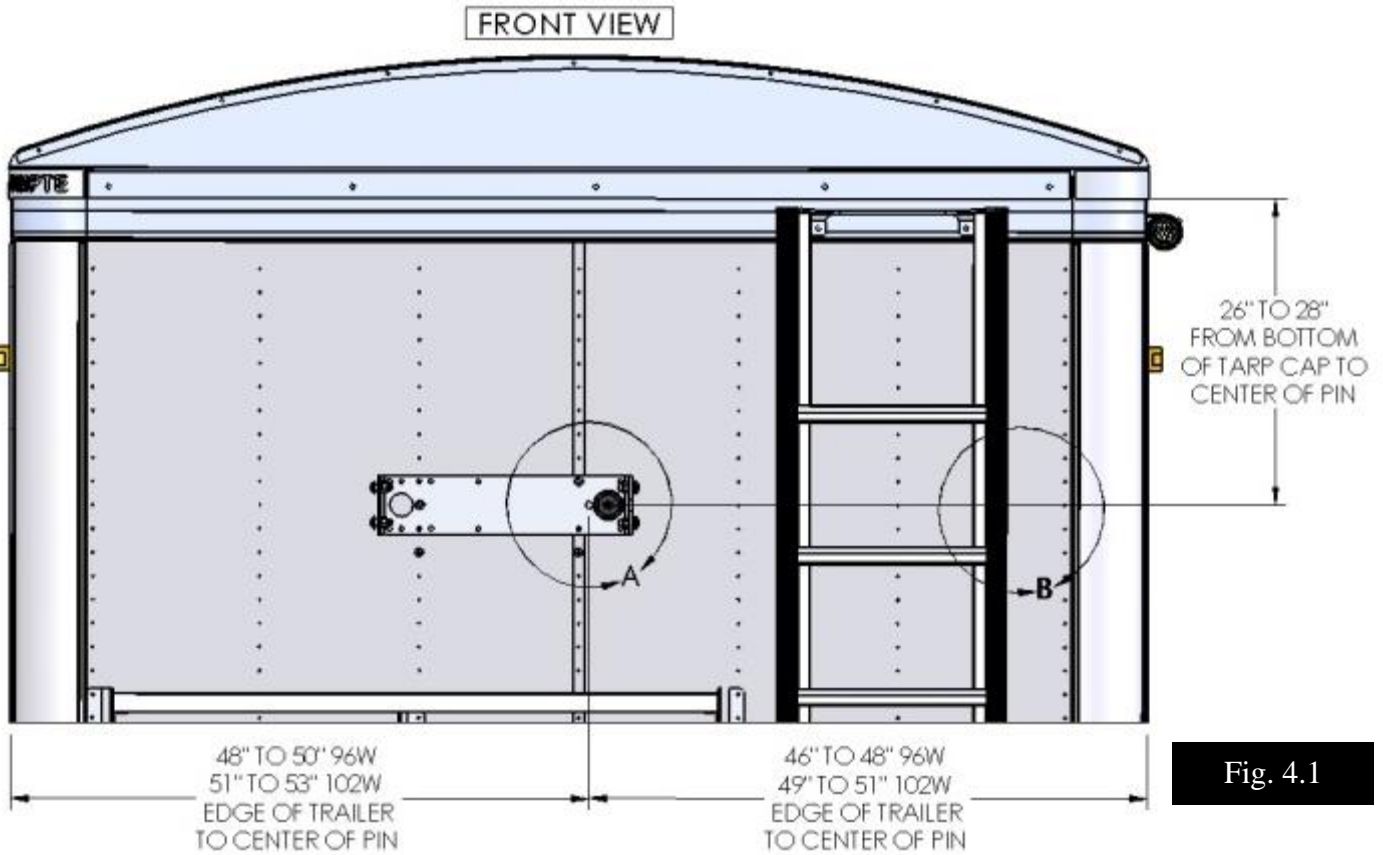

Fig. 4.1
1. On the front of the trailer measure from the bottom of the tarp cap, for square nose trailers measure straight down approximately 27" and put a mark on the front face of the trailer. **This line should be as close to center as possible.** Refer to the figure 4.1.